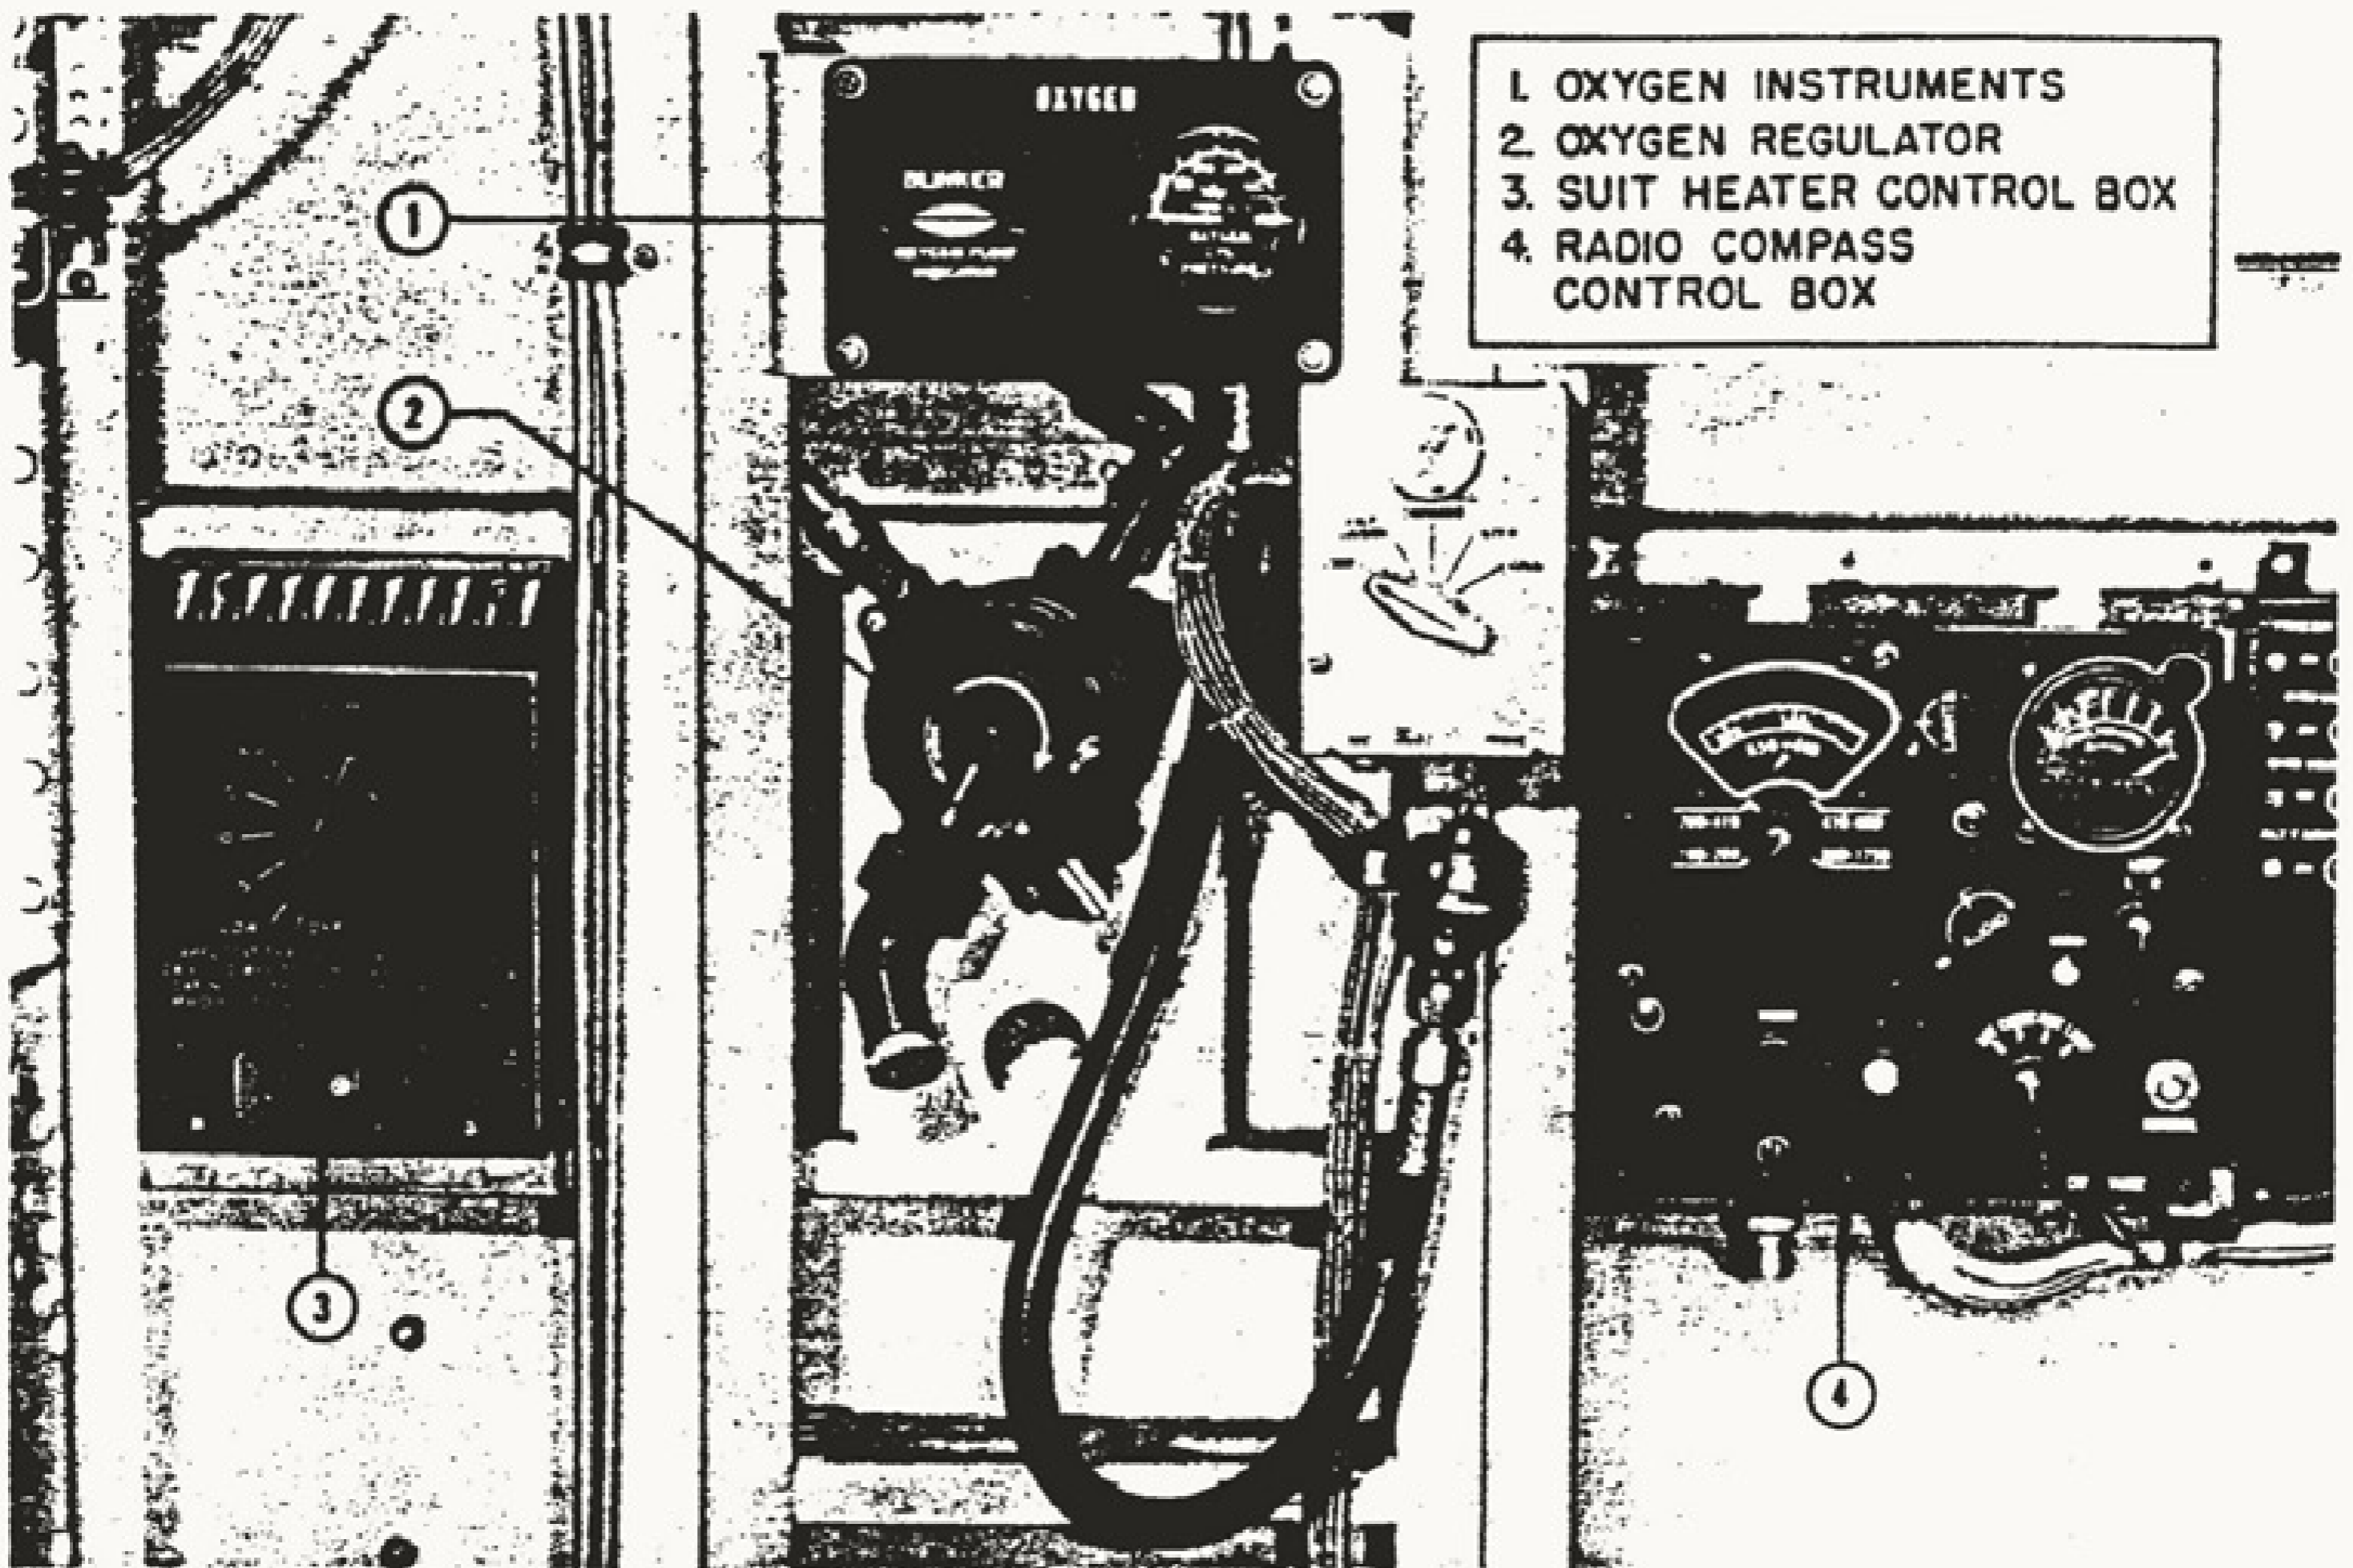

Figure 5. Radio Compass Controls, Suit Heater Control, and Oxygen Instruments
f. SUIT HEATER CONTROL.- A suit heater control box, see 3, figure 5, is located to the left of the pilot on the cabin wall. The copilot's control box is secured to the airplane structure in back of his seat.